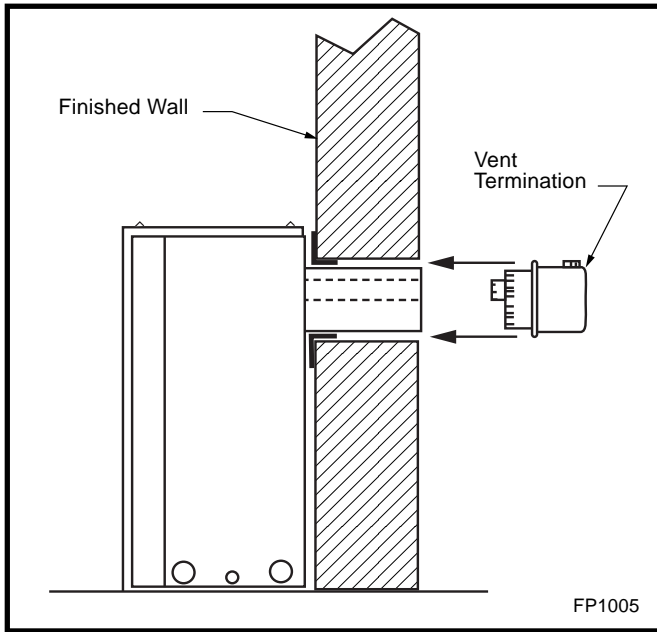

Fig. 17 Side view of final unit location.
Slip 4" and 7" pipes onto respective flue collars. Make sure to fix to the fireplace collar the 4" pipe with three (3) screws before fixing the 7" pipe on the 7" collar. Both pipes must be on a level plane. (Fig 17)
Guide the vent termination 4" collar into the 4" pipe then the 7" collar into the 7" pipe. Do not force the venting into position. If the pipes do not line up with the termination collars, disassemble pipes and reattach to the fireplace collar. (Fig. 17)